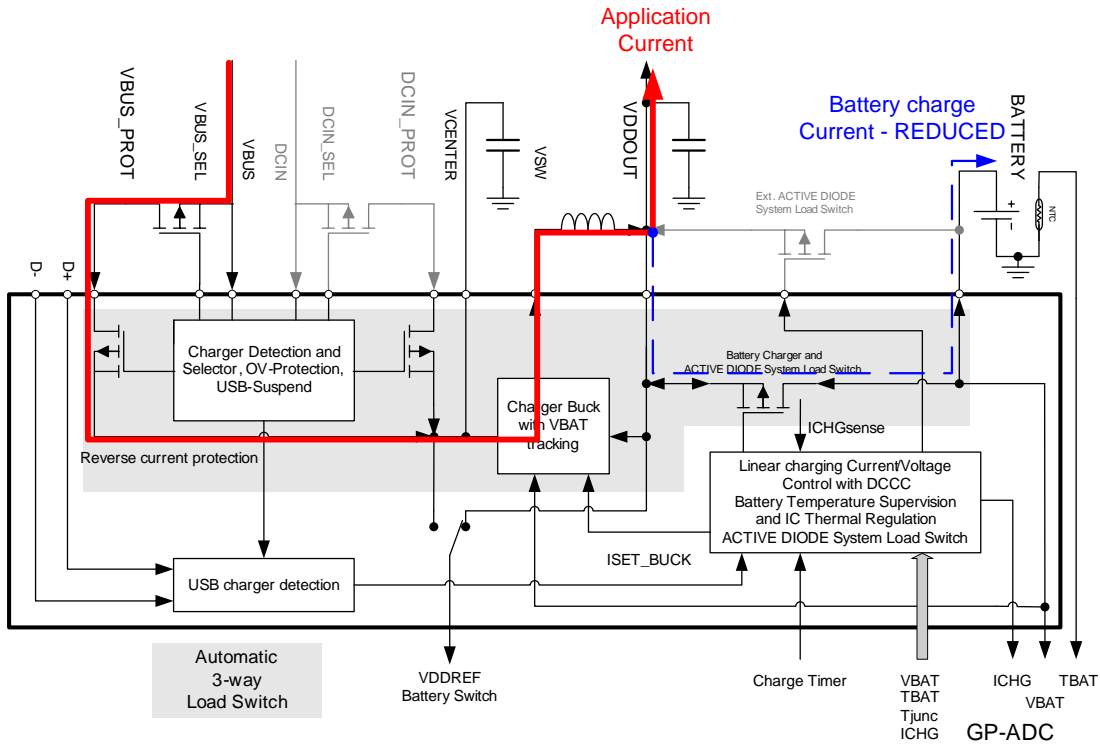

Figure 10: Current path from valid USB according to state B.
- B. If the combined load exceeds the input current limit ISET\_BUCK, the linear charger stage automatically reduces the battery charge current to keep supplying the required system power. This is realised by reducing VDDOUT down to VBAT, which consequently reduces the charging current. It is then possible to charge the battery with any surplus current that is not required by the application (see Figure 10).